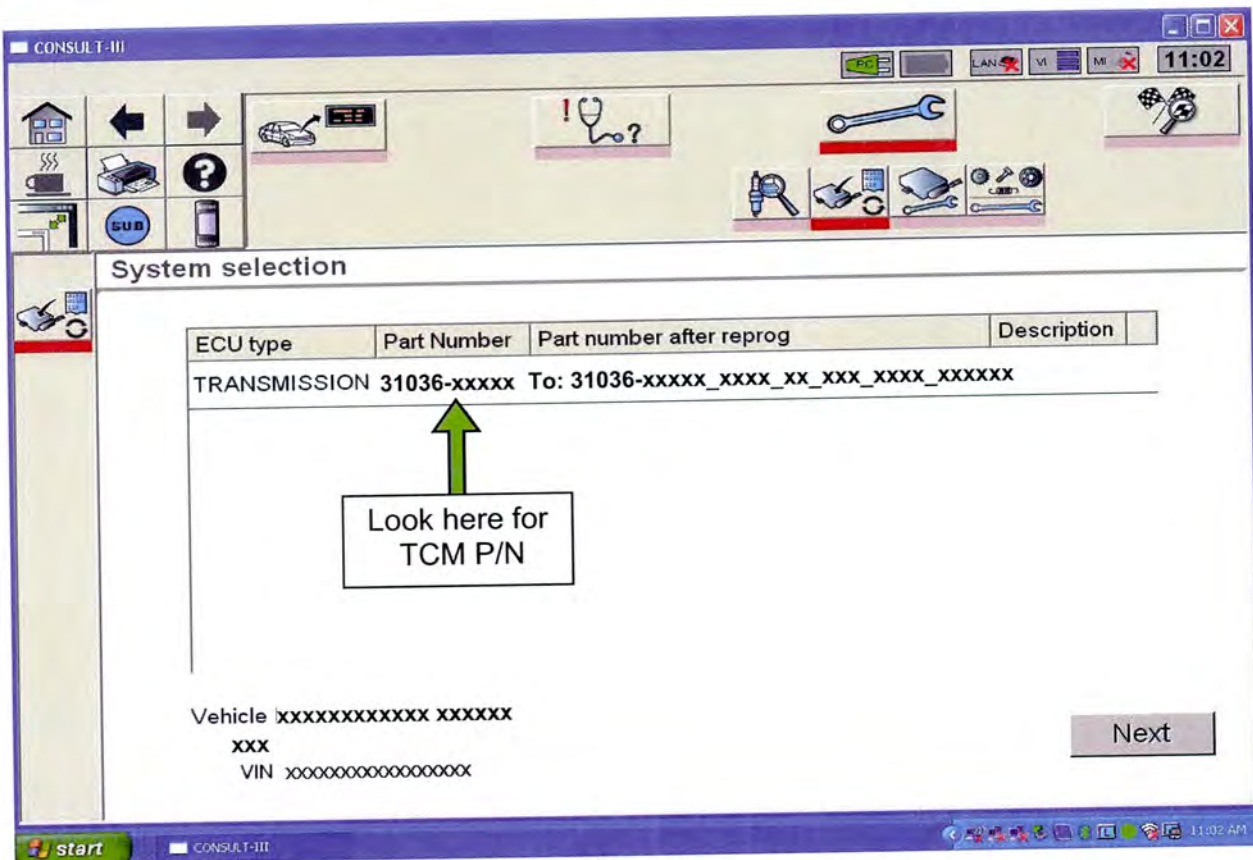

Figure 1
2. When you get to the TCM Reprogramming screen shown in Figure 1, confirm TCM reprogramming applies as follows:
A. On your C-III screen, look at the **Part Number** column (see Figure 1 example).